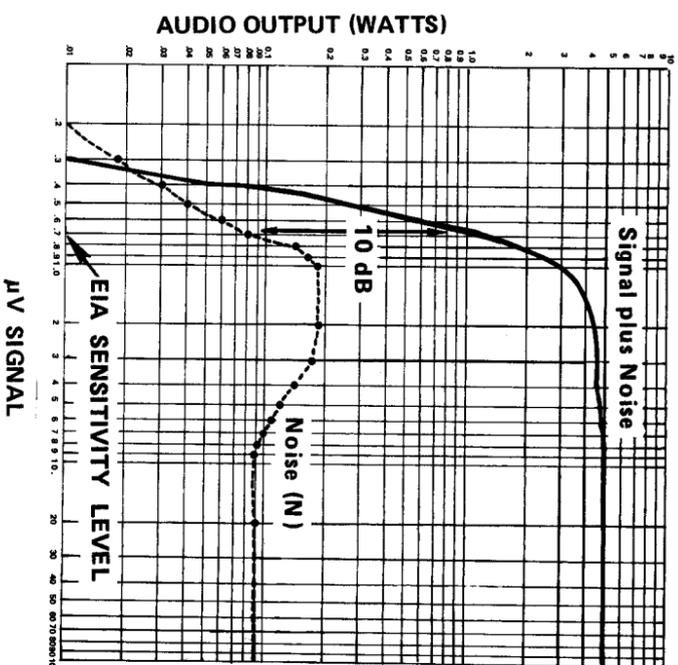
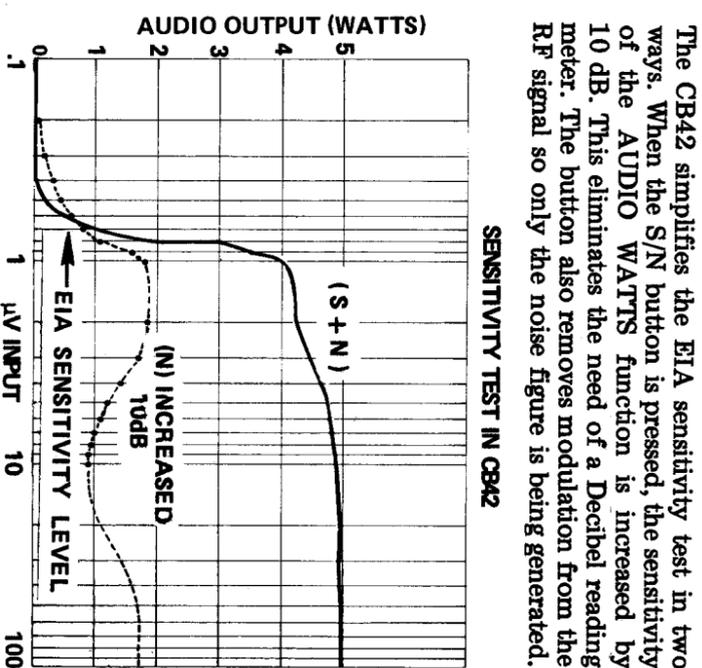

Fig. 28—Typical receiver sensitivity curves showing EIA definition of sensitivity.
Fig. 29—Receiver sensitivity curves with "noise" curve increased by 10 dB.
A typical sensitivity curve is shown in Fig.28. As the graph shows, the noise figure (dashed line) increases with the input signal until the AGC circuit begins to reduce the receiver's gain, at which point it begins to level off. The Signal Plus Noise (S+N) curve builds more quickly with an increasing input signal, and also levels off due to the limits of the receiver's audio detector circuit. The EIA Sensitivity is the point where these two lines are 10 dB apart, or the (S+N) figure is 10 times the (N) figure.
The graph in Fig.29 shows what happens if the noise curve shown in Fig. 28 is increased by 10 dB. The graph shows that the point where the two lines cross is the same point that gave the sensitivity figure in the preceding graph. This is exactly what the CB42 does. The noise output is increased by 10 dB, so all that is necessary is to find the point where the S+N and N figure read the same on the DIGITAL READOUT.